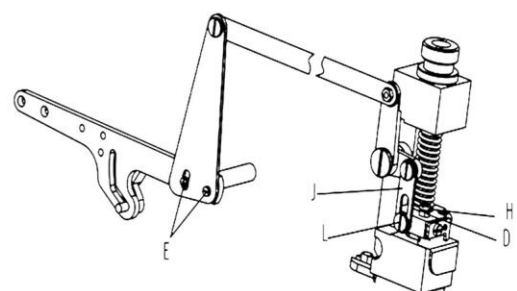

图34 (Fig.34)
2. 间隙0.5mm的调整: 如图(图34)所示, 调整螺钉(H), 使上下滚轮的间隙为0.5mm再锁紧螺帽(D) (图34) 稍放松螺钉(K)并调整连杆(J), 使螺钉(L)与连杆(J)的长圆孔下方的间隙为0.5mm, 再锁紧螺钉(K)。
2. Gap referring (Fig.34): Loosen nut (D) and turn screw (H) to reach 0.5mm gap between top and lower rollers. Then tighten screw nut (D). (Fig.34) release screws (K) slightly and adjust connector (J) to keep the space between the bottom edge of screw (L) and the edge of slot on connector (J) at 0.5mm. Then tighten screw (K).